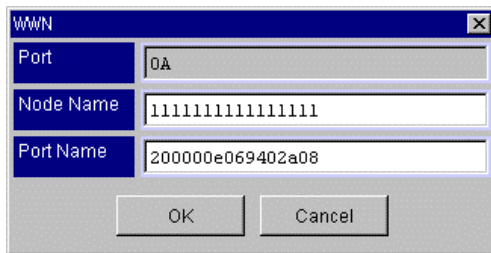

Figure 4.5 Node Name Entry
6. Enter the **Node Name** (16 hexadecimal digits) and **Port Name** (16 hexadecimal digits) of the host WWN. Click the **OK** button (see Figure 4.5).